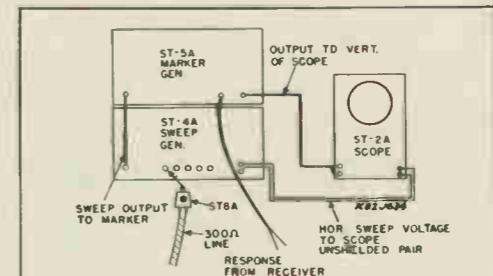
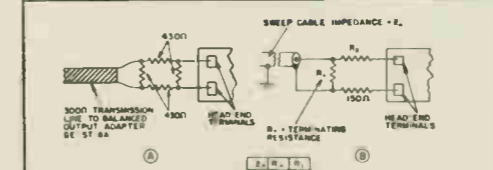

FIG. 6. RF SWEEP EQUIPMENT CONNECTION DIAGRAM
FIG. 8. SWEEP EQUIPMENT TERMINATION
2. Connect the sweep generator to the RF tuner antenna input transformer using the G-E ST-8A balanced adapter to obtain 300 ohms output, see figure 6. The adapter should be connected to the RF tuner through approximately three feet of 300-ohm transmission line and a resistor pad, as shown in figure 3. When using other test equipment of the unbalanced output type, a pad as shown in figure 8 should be used instead.